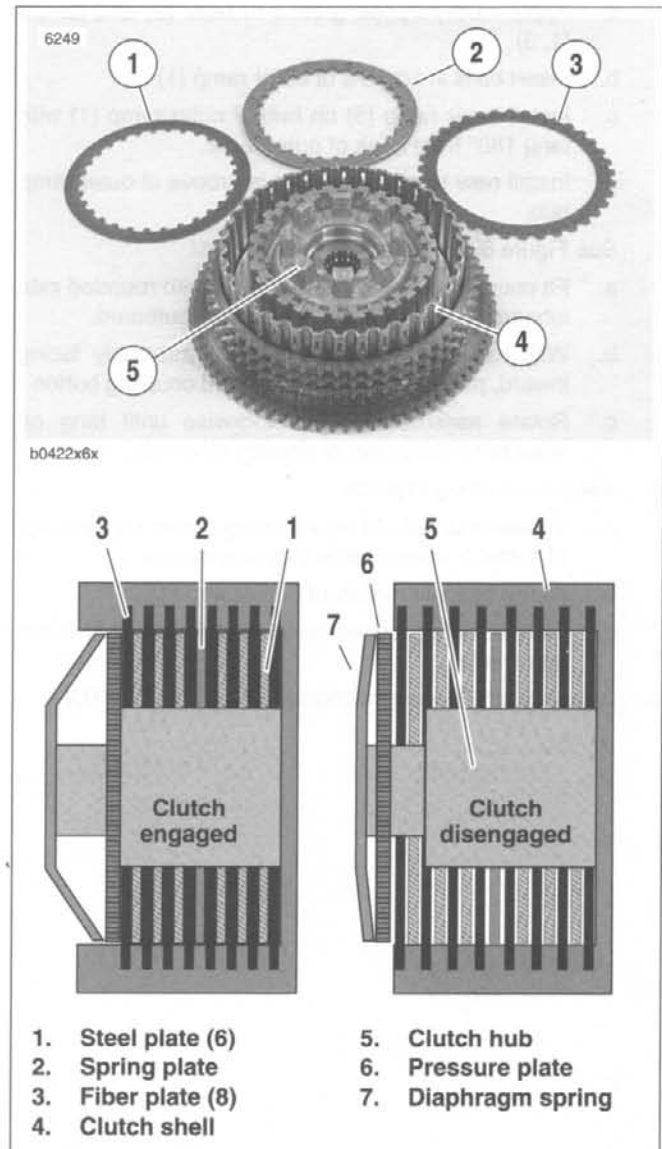

Figure 6-13. Clutch Plates and Hub/Shell Assembly
See Figure 6-13. The clutch is a wet, multiple-disc clutch with six steel plates (1), one spring plate (2) and eight fiber (friction) plates (3) stacked alternately in the clutch shell (4). The order of plate assembly, from inboard to outboard, is as follows: